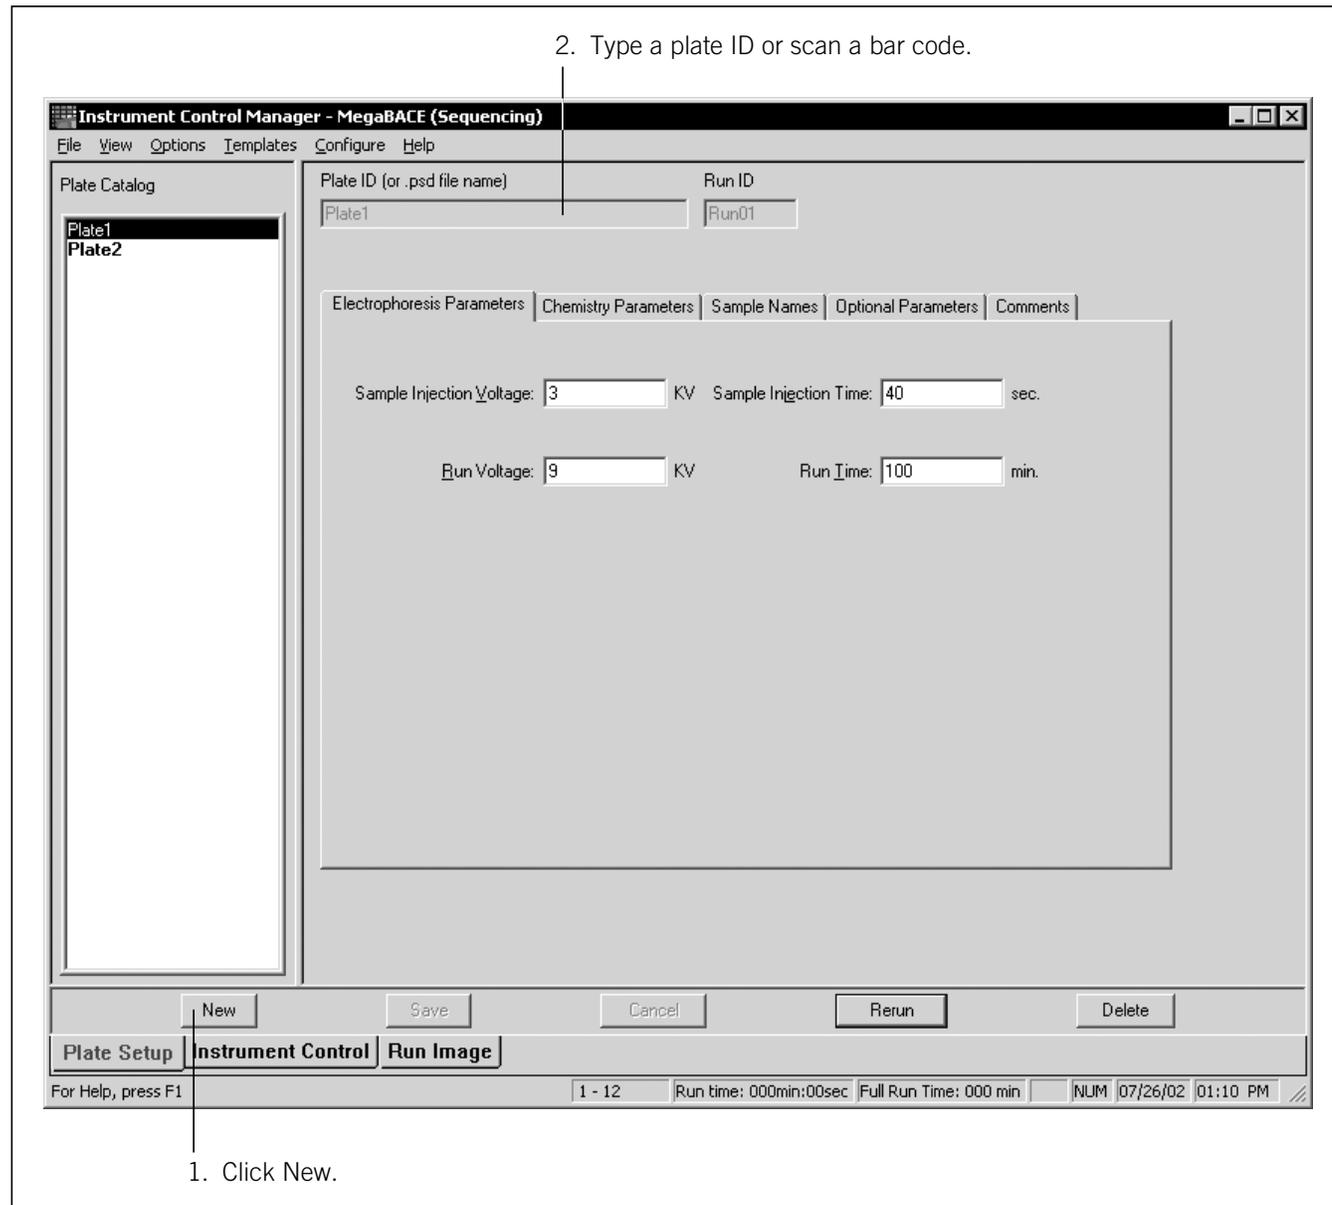

Figure 6-6. The Plate Setup window showing electrophoresis parameters for sequencing.
1. In the Plate Setup window, click **New** (figure 6-6).
2. Check to see if values appear for the electrophoresis parameters in the Plate Setup window (figure 6-6). If values appear, your software has been configured to use a default plate setup template.
4. Click **Save** to save the plate definition. The plate ID appears in the Plate Catalog (figure 6-6).
1. Click **New** in the Plate Setup window (figure 6-6).
2. In the **Plate ID** box, type the .psd file name or scan a bar code. The software automatically saves the new plate definition, and the plate ID appears in the Plate Catalog (figure 6-6).
2. In the Plate Setup window, click **New** (figure 6-6).
- In the **Electrophoresis Parameters** tab (figure 6-6), type the electrophoresis parameters.
5. Click **Save** to save the plate definition. The plate ID appears in the Plate Catalog (figure 6-6).